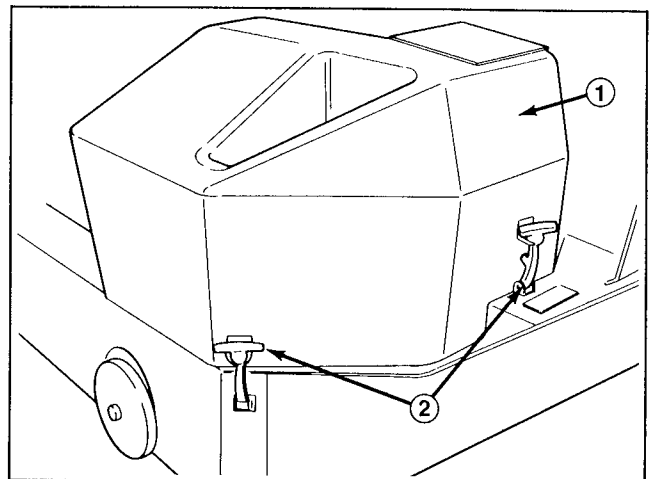

Figure 41
- A. Unlatch and remove clutch cover (Fig. 41).